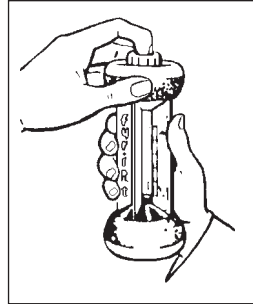

Figure 1
1.0 DESCRIPTION (Refer to Figure 1)
1. Hold upright (Fig. 1) and away from face. Depress Plunger Valve (momentarily) to vent FYRITE, and release.